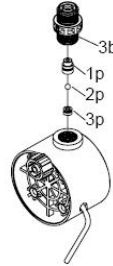

Fig. 10 Standard DN4/DN8 valve
6. Refit all parts. See fig. 10 on page 16.